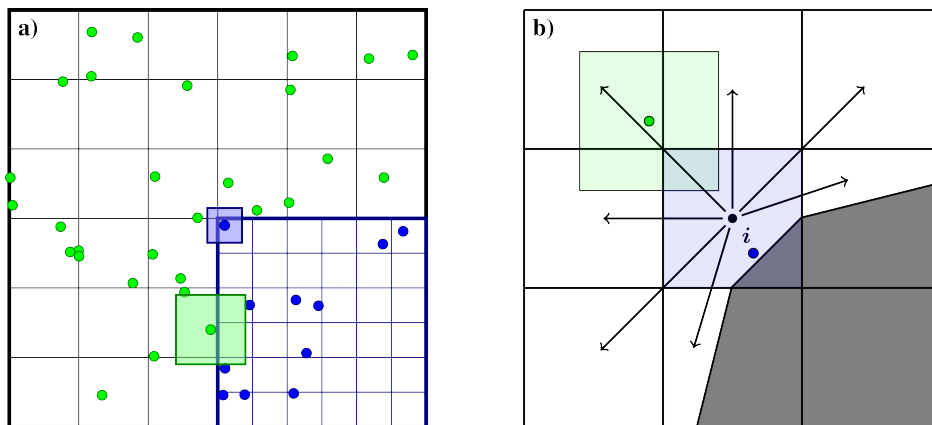

Fig. 3.4.2: Sketch of deposition schemes near refinement boundaries and cut-cells.
- `CoarseFineDeposition::Interp` This method permits the coarse-grid particles to deposit into the region underneath the fine grid. The deposited mass that falls underneath the fine grid is then interpolated from the coarse grid to the fine grid. For example, see the indicated coarse-grid particle cloud in the left panel Fig. 3.4.2. While this particle has a width given by the coarse-grid cell size, it will deposit into the coarse grid cells underneath the fine grid. The mass that ends up in these cells is interpolated to the fine grid, which in this case will inject mass into two layers of fine-grid cells.
depositing the particles on the coarse level, and then transferring them to the fine level and redepositing them there with the original particle width. Taking the left panel in Fig. 3.4.2 as an example, the green particle will then deposit into the coarse-grid cell as well as the first layer of fine-grid cells.